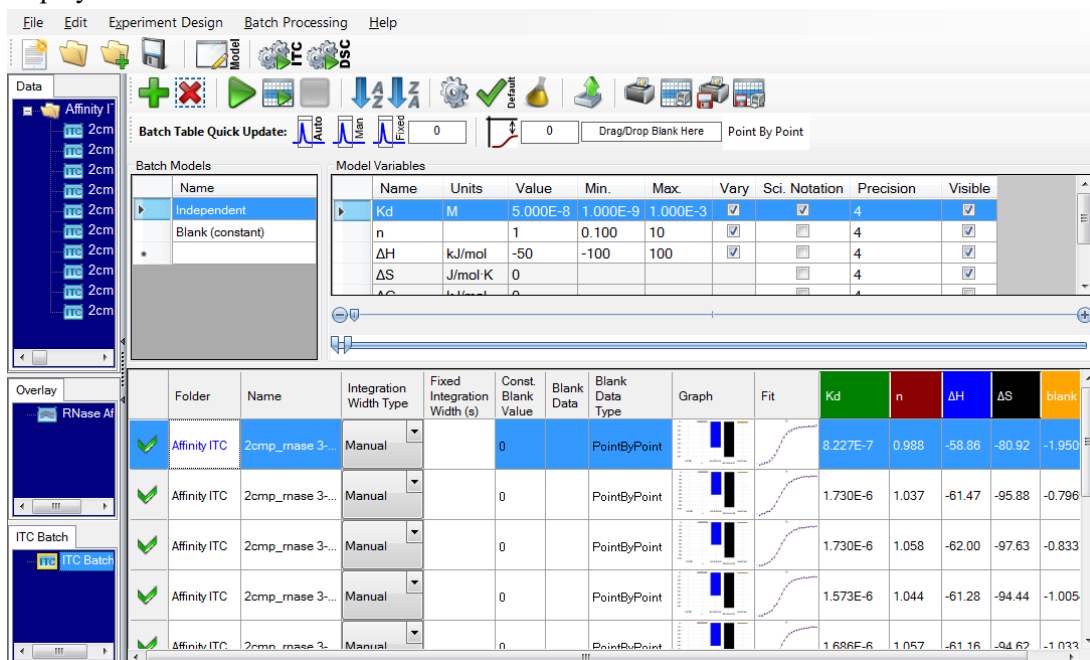

Figure 72
- The graph appearance can be adjusted via controls that are hidden by default. They can be accessed by clicking on the **Graph Settings** border. To hide the graph settings, click on the ">>>" symbol as highlighted in Figure 72 above.